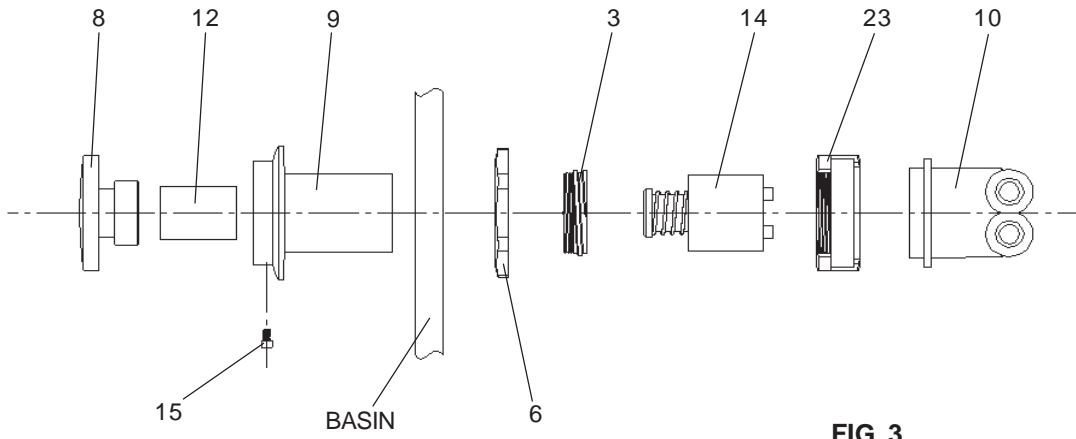

FIG. 3
9. **Check stream height from bubbler.** Stream height is factory set at 45-50 PSI. If supply pressure varies greatly from this, adjust the screw on regulator item 14 by using a small screwdriver through the small hole in the push button item 8 (See Fig.3). Clockwise adjustment will raise stream height and counter-clockwise adjustment will lower stream height. For best adjustment stream height should be approximately 1-1/2" (38mm) above the bubbler guard (See Figure 7, Page 7).
7. **Check stream height from bubbler.** Stream height is factory set at 45-50 PSI. If supply pressure varies greatly from this, adjust the screw on regulator item 14 by using a small screwdriver through the small hole in the push button item 8 (See Fig.3). Clockwise adjustment will raise stream height and counter-clockwise adjustment will lower stream height. For best adjustment stream height should be approximately 1-1/2" (38mm) above the bubbler guard (See Figure 7, Page 7).